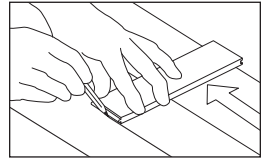

Figure 13
- **Sacrificial board:** If the wall is not straight, scribe the first board (Figure 13) as necessary to maintain alignment with the chalk line. Install a sacrificial board (with a straight edge) using the appropriate fasteners for the subfloor. If a board is used for the starter row make certain the groove faces the wall.
- **Wedges:** Align the first row with the wall using wedges to maintain a 1/2" (13 mm) expansion in place and to stabilize the product. If the wall is not straight, scribe the first board (Figure 13) as necessary to maintain alignment with the chalk line.